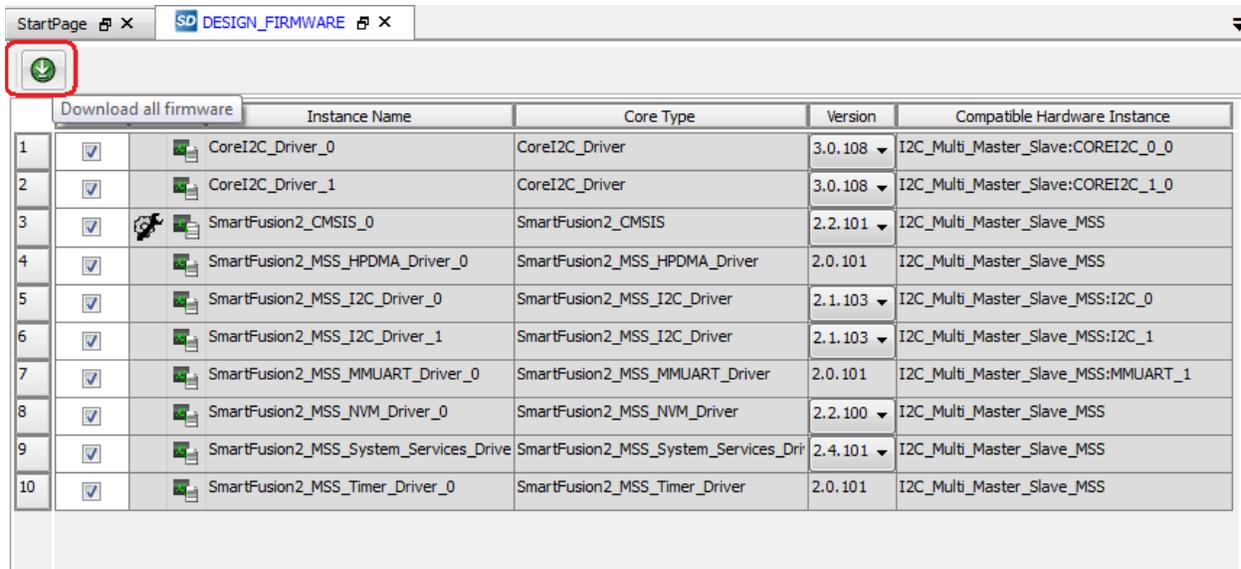

Figure 22 • Download All Firmware
2. **DESIGN_FIRMWARE** tab displays MSS peripherals and CoreI2C drivers. Click **Download all firmware** as shown in **Figure 22**.